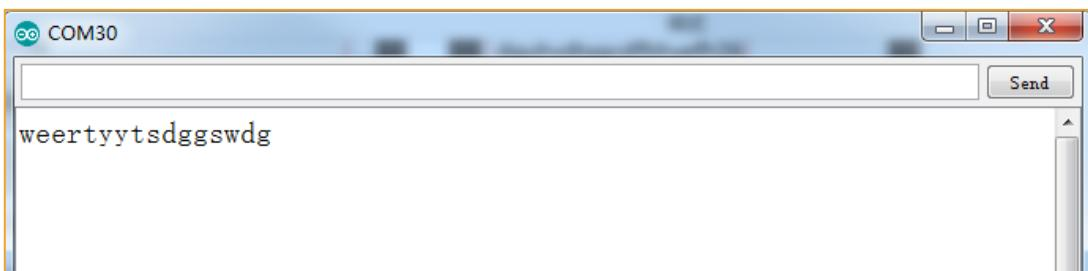

Figure 4-8-11
5、After clicking Send, we can see that the content sent by the mobile phone is printed on the serial monitor, as shown in Figure 4-8-11, indicating that the Bluetooth module can send data normally. Of course, in order to test the accuracy, you can Test a few more times and try to test in different environments.